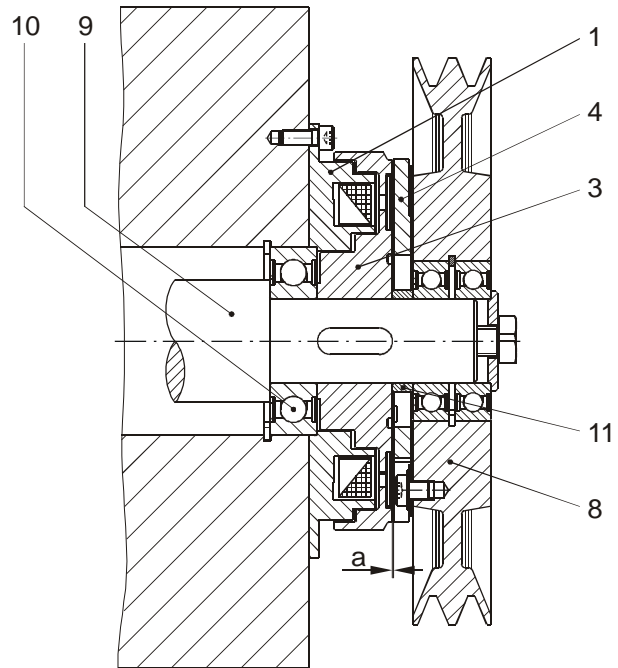
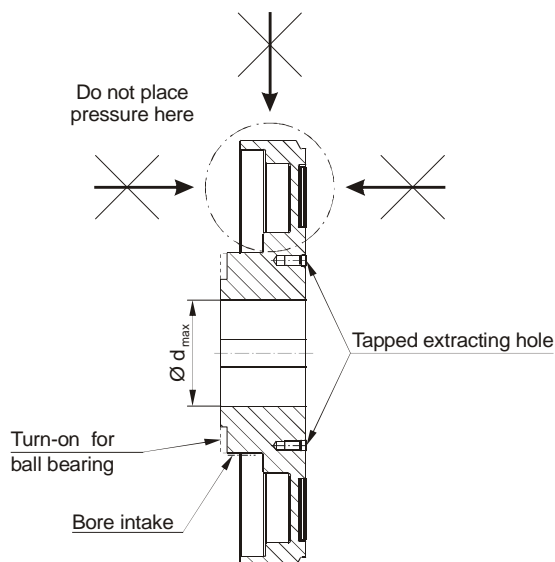

Fig. 3
Fig. 2
## Installation Example 1 (Fig. 3)
## Boring the rotor hub (Fig. 2)
The rotor (3) must not be bent during boring. Do not place pressure on the outer, thin-walled rotor area, see Fig. 2.
- Centred by a ball bearing (10), Figs. 3/4.
- Do not place pressure on the outer area of the rotor (3) (Fig. 2).
The rotor (3) must be secured axially in operation, see Installation Examples Figs. 3 and 4.
- 4.1. Adjust the air gap "a" according to Table 1 and Figs. 3/4.
- 4.2. Secure the mounting part or flange hub (7) axially backlash-free.
Axial backlash changes the air gap "a" and can lead to the rotor (3) running against the armature disk (4) (see Installation Examples Figs. 3 and 4).
## Rotor De-installation (Fig. 2 / Page 6)
If the coil carrier (1 / 2) is centred on the inner diameter "Z" using a ball bearing (Fig. 3), the rotor hub (3) must be turned-on to the facing side.
- Turn the rotor (3) free on the hub facing side, see Fig. 2. The hub facing side must only lie against the ball bearing inner ring (10) (see Installation Examples Figs. 3 and 4).